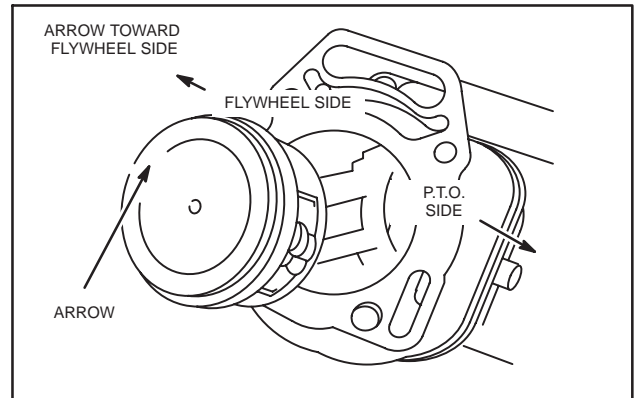

Fig. 3 – Installing Piston And Connecting Rod
3. Install #1 piston with arrow towards flywheel side, Fig. 3.